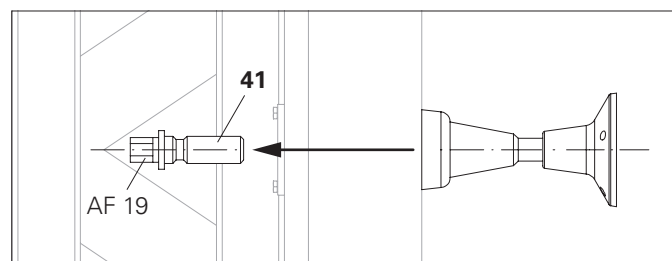

Fig. B1.10
1. Loosen and remove Positioning Screw M24 (41) from the rear side of the formlining, AF 19.
2. Remove formwork. (Fig. B1.10)